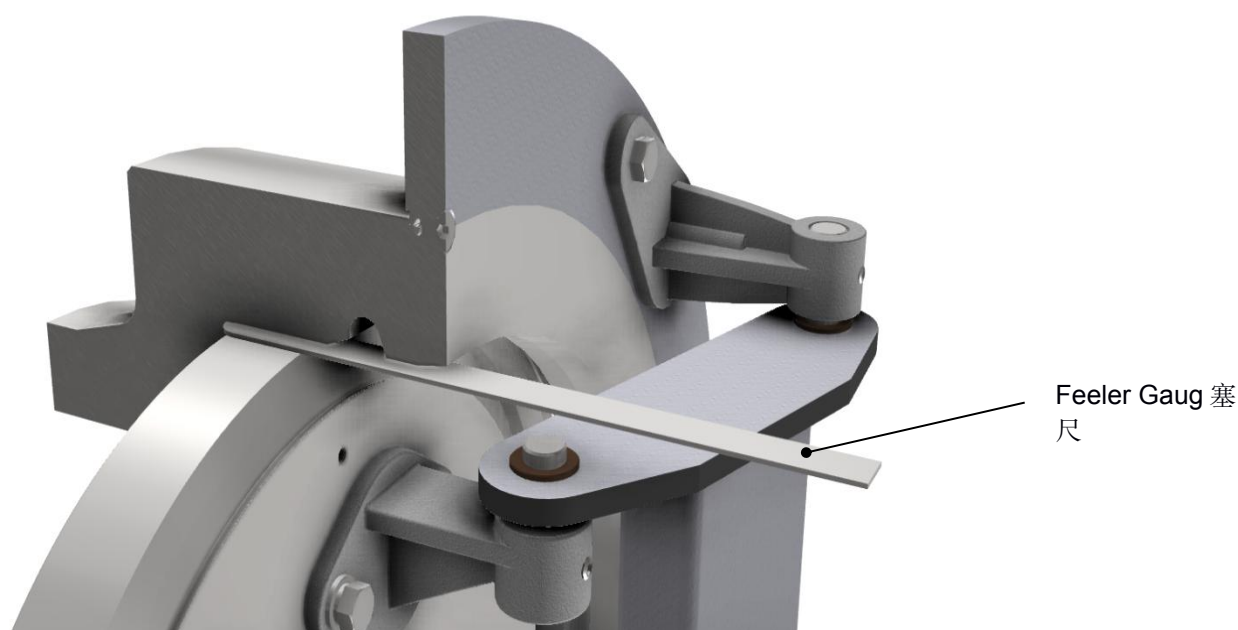

Fig 8.0 – Door Centralisation (门的居中)
- 3 Check the gap between the hub and door in 12 o'clock and 6 o'clock positions (Fig 8.0) using feeler gauges.
见图 8.0, 检查门和颈部在 12 点及 6 点位置的缝隙。